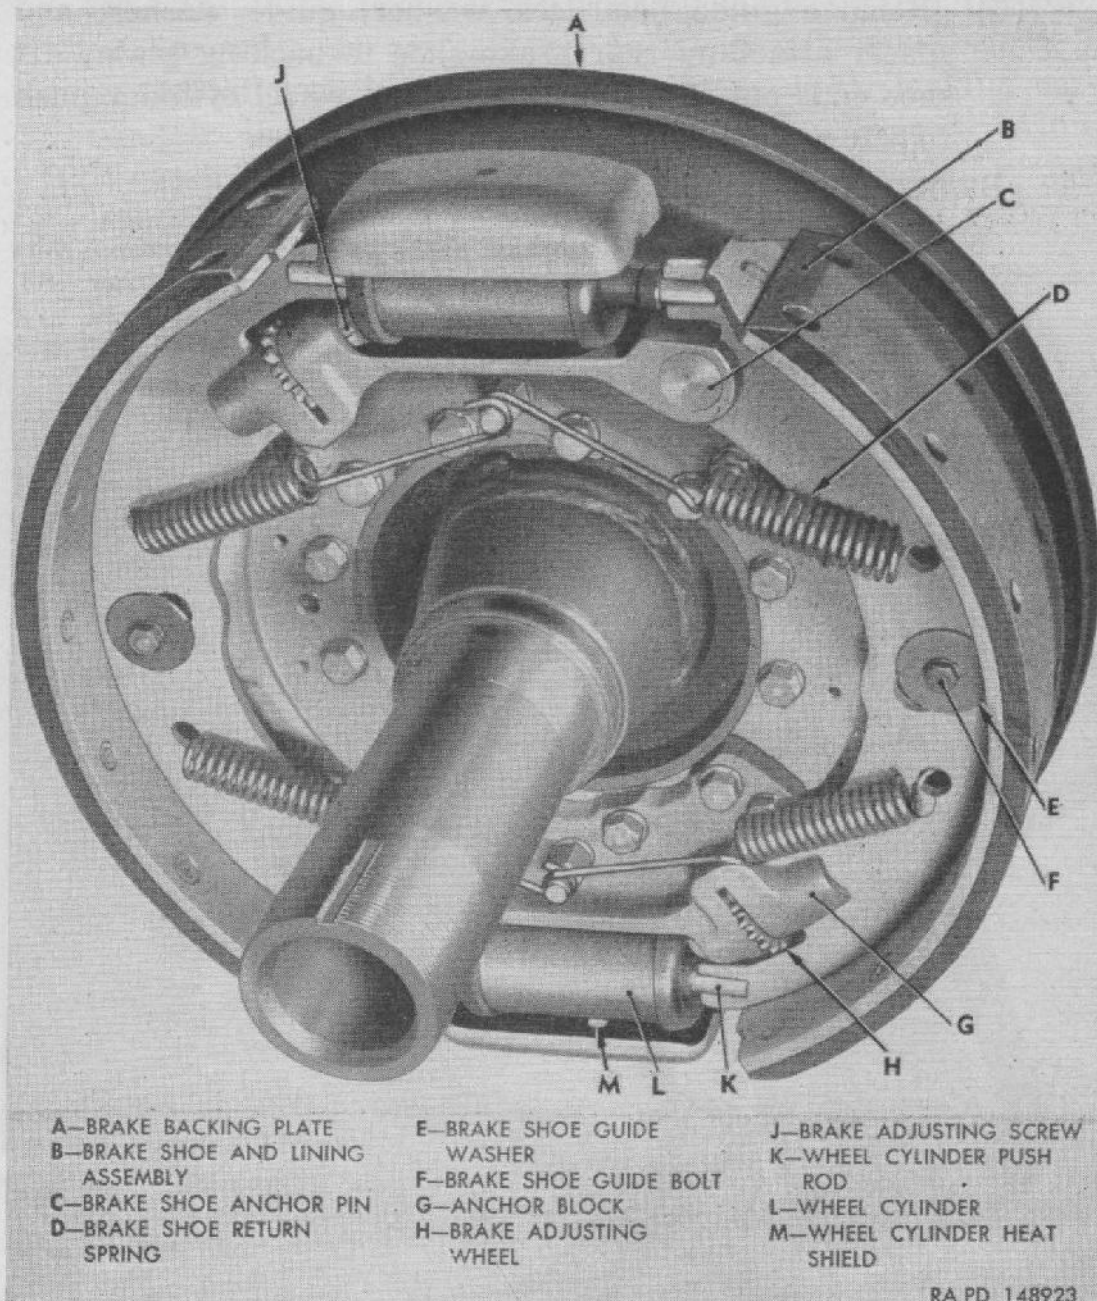
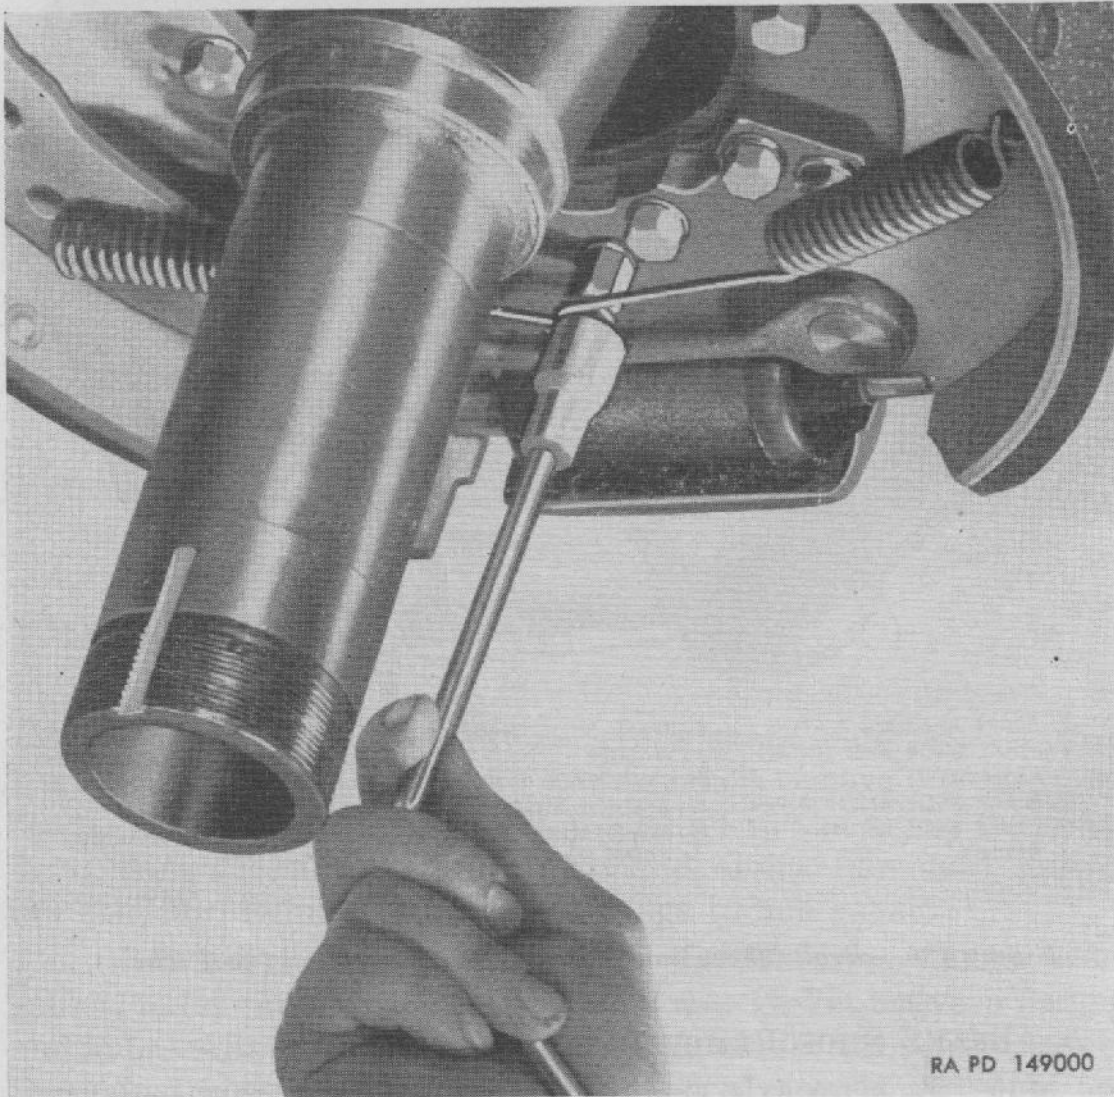

Figure 130. Brake shoes and wheel cylinders installed (rear wheel).
Figure 131. Removing brake shoe return springs using tool 7950060.
a. DESCRIPTION. All brake shoes on vehicle are identical. Two brake shoes are mounted on each backing plate in conjunction with two anchor blocks and two wheel cylinders (fig. 130). Anchor blocks serve as shoe stops and shoe centering points, and provide the fulcrums around which the shoes pivot when brakes are applied. Four brake shoe return springs hold shoe ends firmly against anchors when brakes are released. Heel of each shoe anchors against steel pins installed in anchor blocks. Toe of each shoe anchors against adjusting screws which are threaded into the anchor blocks. Both shoes are always primary shoes, independently self-energized in either direction of brake drum rotation. Shoes anchor either at toe or at heel, depending upon direction of drum rotation when brakes are applied.
b. BRAKE SHOE REMOVAL (fig. 130).
- (1) Jack up axle and remove wheel (par. 239a).
- (2) At front axle, remove axle shaft drive flange (par. 198a); at rear axle, remove axle shaft (par. 205b).
- (3) Remove hub and brake drum (par. 245 or 246).
- (4) Using brake spring tool 7950060, unhook brake shoe return springs from spring anchor studs (fig. 131); then remove springs from brake shoes.
- (5) Remove nut, lock washer, guide washer, and spacer from front brake shoe guide bolt; then lift shoe ends out of anchor blocks and wheel cylinder push rods.
- (6) Remove guide bolt, lock washer, guide washer, and spacer attaching rear brake shoe to backing plate; lift shoe ends out of anchor blocks and wheel cylinder push rods to remove shoe.
c. BRAKE SHOE INSTALLATION (fig. 130).
a. GENERAL. Two double-end wheel cylinders are mounted on each backing plate between ends of brake shoes (fig. 130). Bleeder valve and hydraulic inlet openings extend through backing plate. Each cylinder is attached to backing plate by two bolts and lock washers. Push rods transmit movement of wheel cylinder pistons to brake shoes. In each wheel cylinder, the piston which operates the toe end of brake shoe has a longer stroke than the piston in the other end to compensate for the increased piston travel made necessary when brakes are adjusted to compensate for normal lining wear. Rubber boot at each end of cylinder keeps out water and dirt, and a heat shield at each cylinder deflects heat, created during brake application, away from cylinder.
- (1) Remove brake shoes (par. 221*b*).
- (2) At inner side of backing plate, remove bolt attaching hydraulic brake line connector to wheel cylinder.
- (3) Remove two bolts and lock washers attaching wheel cylinder to backing plate; then remove wheel cylinder and heat shield from backing plate. Remove heat shield from wheel cylinder.